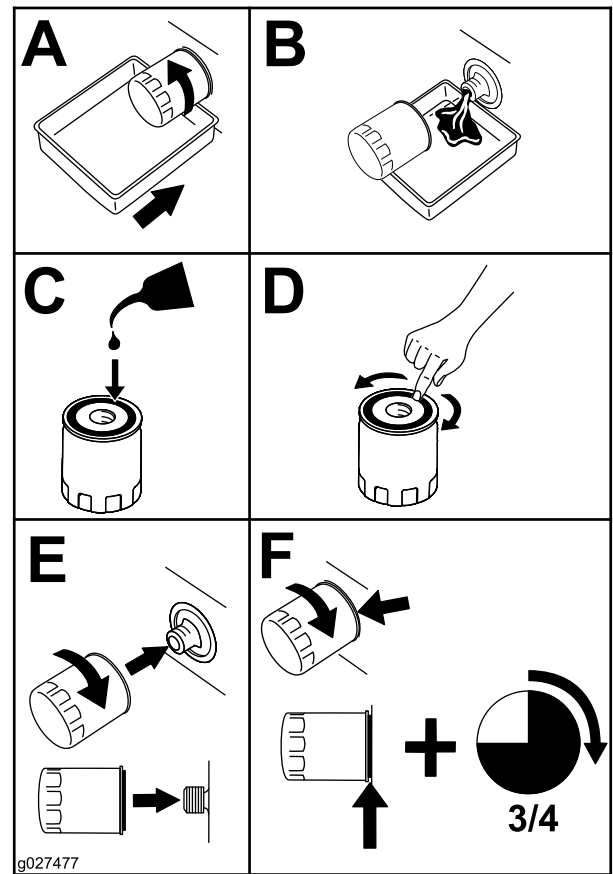

Figure 37
- Change the engine-oil filter (Figure 37).